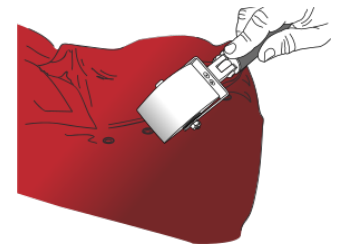

Figure 18
- › Then slide the ROLLRIV (FIG. 18) over the film to make it adhere to the entire rivet surface. Press it all around the rivet using a squeegee or your thumb.